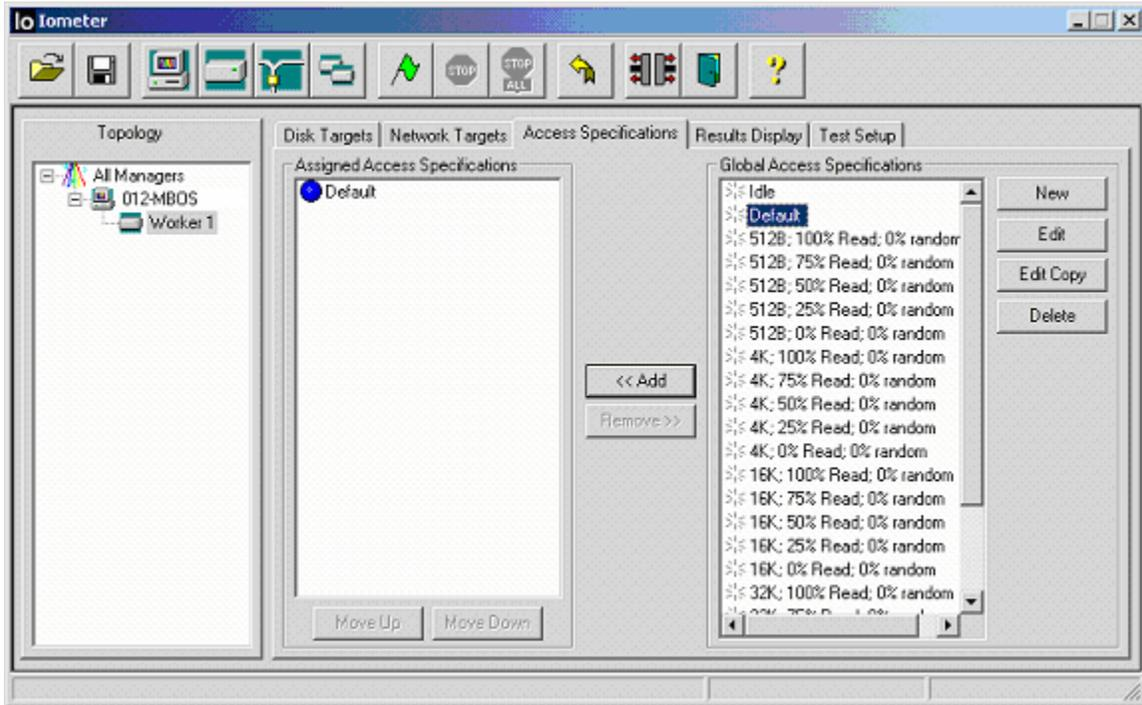

Figure 5
- With the “default” job highlighted in the Global Access Specifications pane (see figure 5), click the “Add” button in the middle of the screen. This will move the “Default” job to the Assigned Access Specifications pane. This will be the job we run.